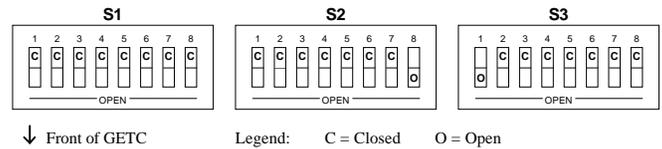

Figure 15 - Test Mode - Low Speed Data / Repeat
- Repeater Gain (RG) 1023
- Compressor Threshold (CT) 32767
- Compressor Gain (CP) 1023
4. Configure the GETC DIP switches as shown in Figure 15. This places the GETC in the test mode continuously keying the transmitter and routing
- Configure the DIP switches as shown in Figure 15. This invokes a test mode on the GETC which keys the transmitter with receiver audio and low speed data from the GETC routed to the transmitter.